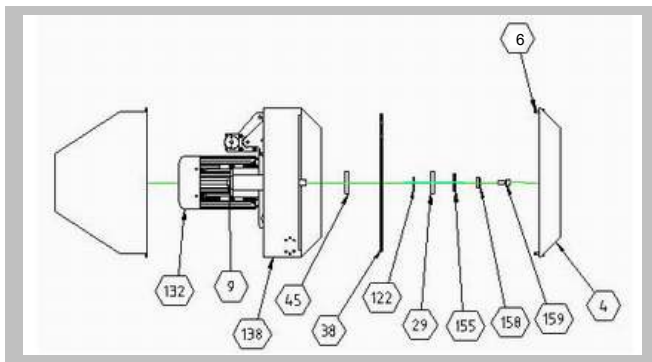

FIGURE 21
**8.1.2.** Remove the M10 screw (Figure 21, No 159) with a 8mm hexagonal key by turning in counter clockwise direction ( hold the blade shaft with a 17 mm wrench key )
**8.1.10.** When replacing the saw blade, use the part of the blade washer Figure 21 No.122, which is appropriate for the blade shaft diameter. The outer diameter of the blade washer is 30 and 32 mm.